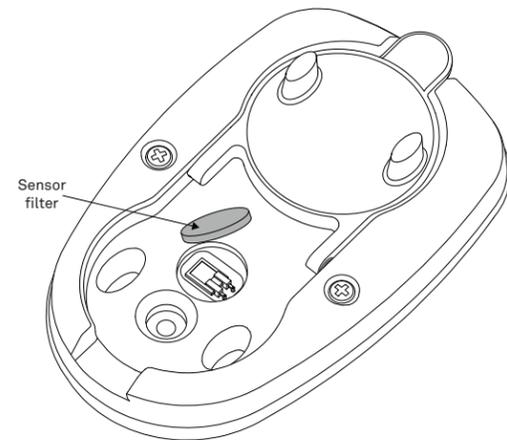

Figure 16 Filter removal
- To remove the sensor filter use a knife or needle point to gently pry up the edge of the filter (Figure 16).